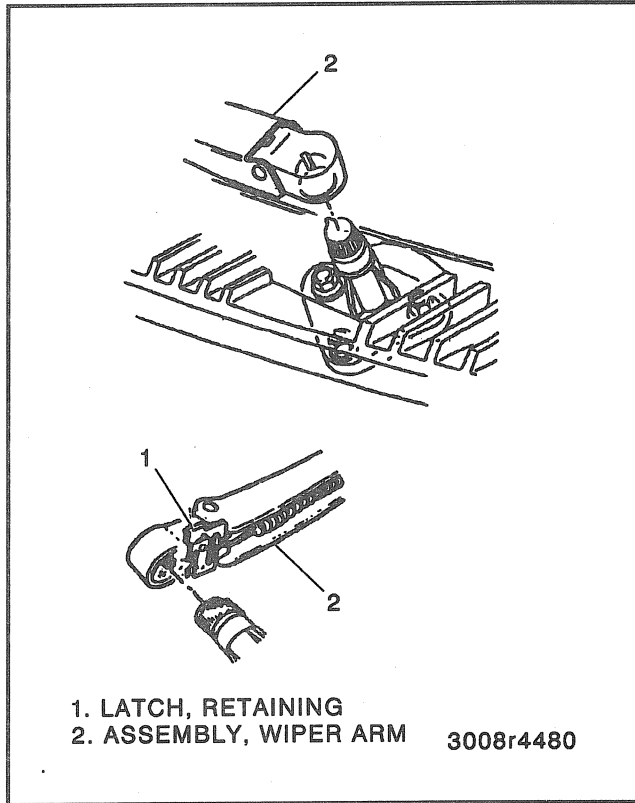

Figure 17—Wiper Arm Attachment
Remove or Disconnect (Figure 17)
Install or Connect (Figure 17)
Remove or Disconnect (Figures 17 and 20)
- Lift the wiper arm into the servicing position, and move the latch into the open position before removing the wiper arm (figure 17).
Install or Connect (Figures 17 and 20)
- Place the wiper arms on the transmission drive shafts and lock them into place with the latch (figure 17).